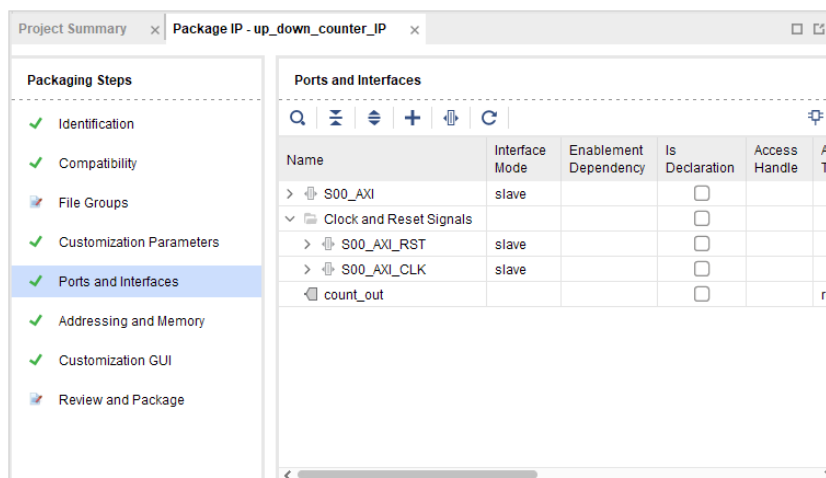

Figure 10
28. Make sure that the window is updated and includes the count_out port (Figure 10)